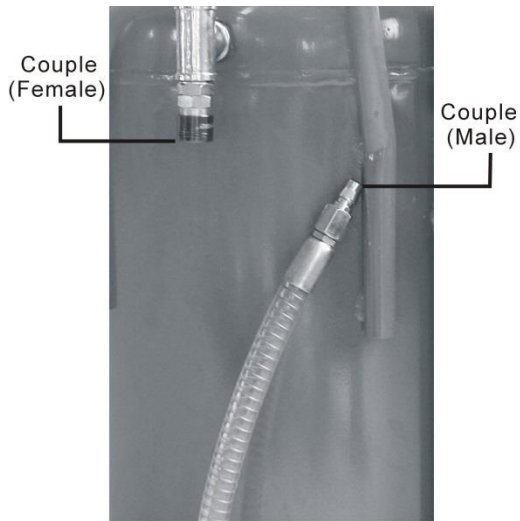

Fig. 4
4. Disconnect the couple as Fig.4
6. Connect extraction/ejection tube with quick couple(male)(Fig.4)
8. Connect air inlet couple (male) with fast couple (female) (Fig.4).
12. Disconnect extraction/ejection tube with fast couple(male)(Fig.4)
13. Connect couples (Fig.4) well.
- 3. Before disconnect extraction/ejection tube with fast couple(male)(Fig.4), making sure no any pressure existed in the tank. Otherwise, oil will spray out.**